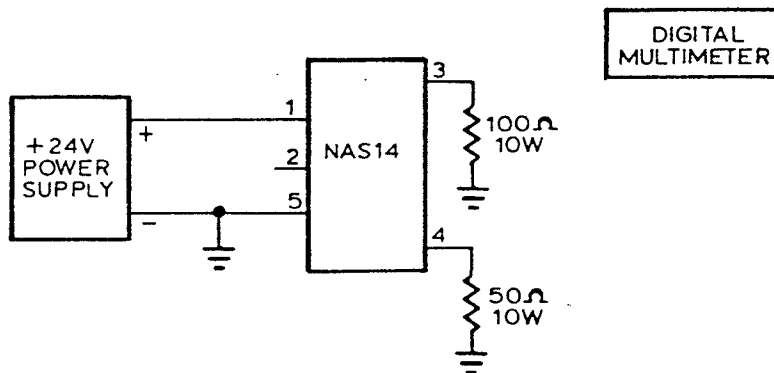

Figure 1 Test Setup
- (b) Connect the low voltage power supply module to test setup depicted in figure 1.